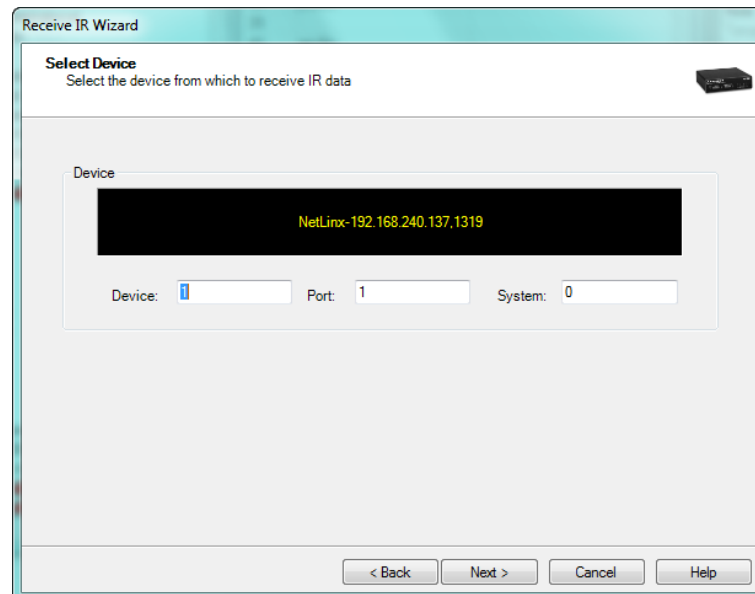

FIG. 57 Receive IR Wizard - Select Device dialog
3. Click **Next** to proceed to the *Select Device* dialog (FIG. 57):